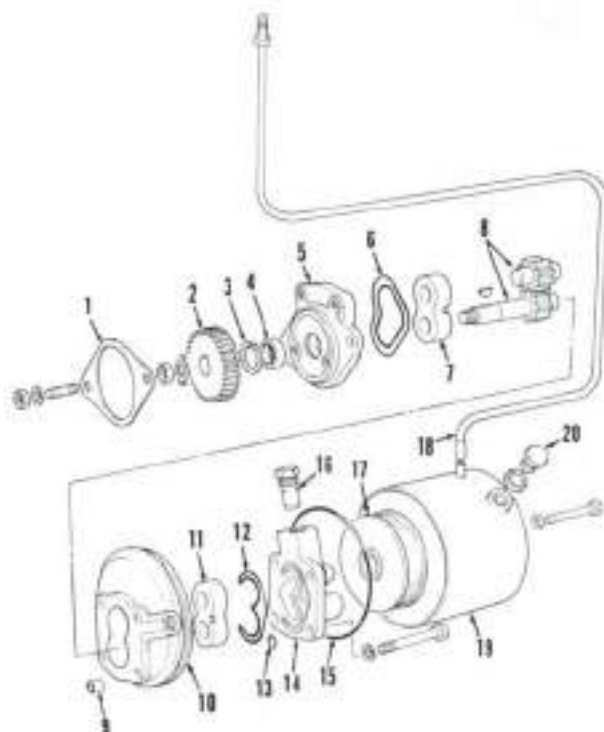
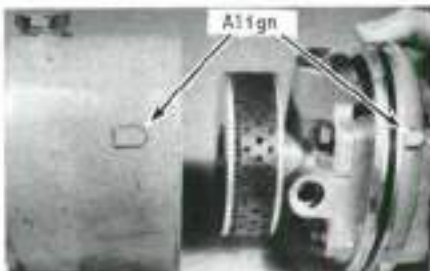

Fig. 49—Exploded view of typical Sundstrand steering pump used on some models. Note in some applications, filter is relocated to a remote reservoir.
Fig. 51—Align oil reservoir and pump body as shown when reinstalling reservoir.
56. The steering system oil filter (17—Fig. 49) is located in the reservoir (19). Note that in some applications, fil-
Scribe match marks on all parts prior to disassembly to ensure correct alignment when reassembling. Remove drive gear (2—Fig. 49) from pump shaft using a suitable puller.
surface. If distance (D) exceeds 0.2 mm (0.008 inch), renew bearings and/or rotors. Relief valve (16—Fig. 49) is a pre-set assembly and should not be disassembled.
To reassemble, press a new oil seal into pump flange (5—Fig. 49) and install retaining ring. Lubricate seal lip with high melting point grease. Install new seals (6 and 12) in flange and end cover. Assemble bearings and rotors making sure cutaway side of bearings is toward rotors. Install flange over shaft being careful not to damage oil seal. Install body over rotors and bearings. Using new "O" rings (13), install end cover and four through-bolts. Tighten bolts to 50 N·m (37 ft.-lbs.) torque. Install a new filter element. Align reservoir and body as shown in Fig. 51. Install drive gear and tighten retaining nut to 61 N·m (45 ft.-lbs.) torque. Bend tab washer to lock the nut.